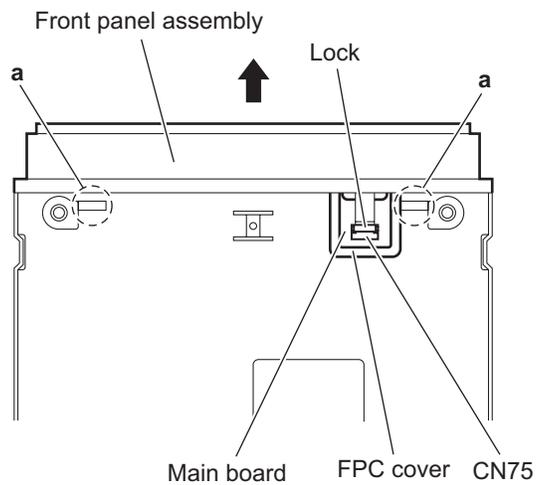

Fig.4
- From the bottom side of the main body, remove the FPC cover. (See Fig.4.)
- Release the lock of the connector **CN75** on the main board and disconnect the card wire. (See Fig.4.)
- Release the joints **a** and remove the front panel assembly from the main body in the direction of the arrow. (See Fig.4.)